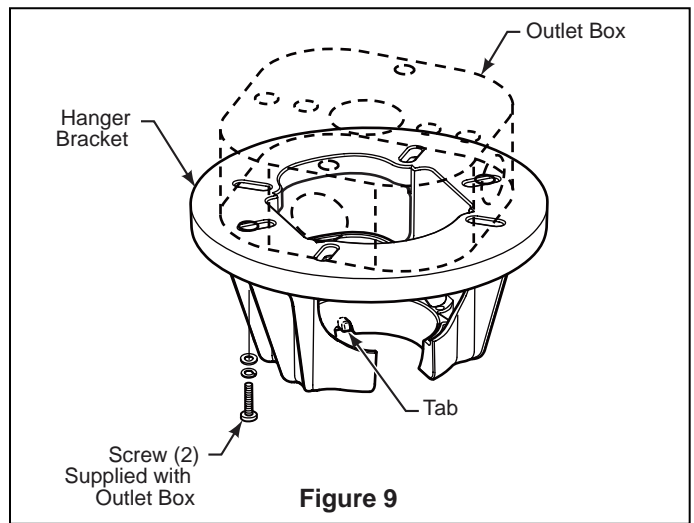
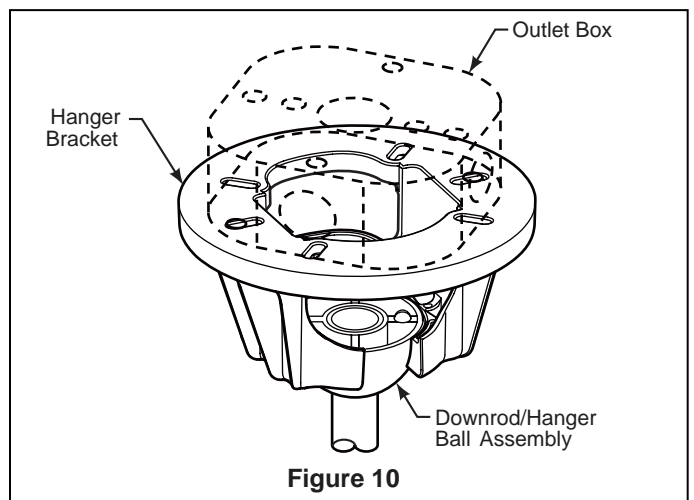

Figure 9
Figure 10
1. Securely attach the hanger bracket to the outlet box using the outlet box screws and washers supplied with the outlet box (Figure 9).
**NOTE:** Outlet box screws pass through slotted holes of the hanger bracket (Figure 9).
3. Carefully lift the fan and seat the downrod/hanger ball assembly on the hanger bracket that was just attached to the outlet box (Figure 10). Be sure the groove in the ball is lined up with tab on the hanger bracket (Figure 9).